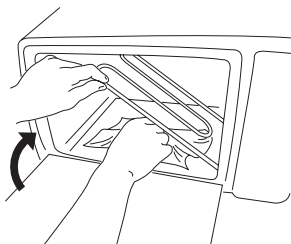

fig. 10
To make the bottom of the oven easier to clean, the lower heating element (L) must be raised by pulling it upwards and to the right (see Figure 10).